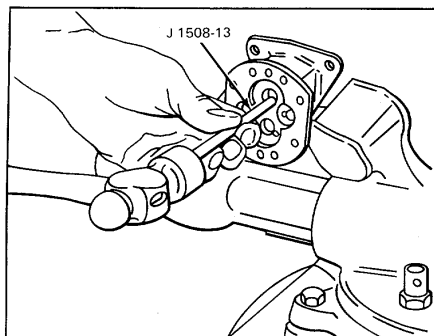

Figure 4. Removing Oil Seals
7. If the oil seals need replacing, remove them with oil seal remover J 1508-13 (Fig. 4). Clamp the pump body in a bench vise and tap the end of the tool with a hammer to remove the outer and inner seals.